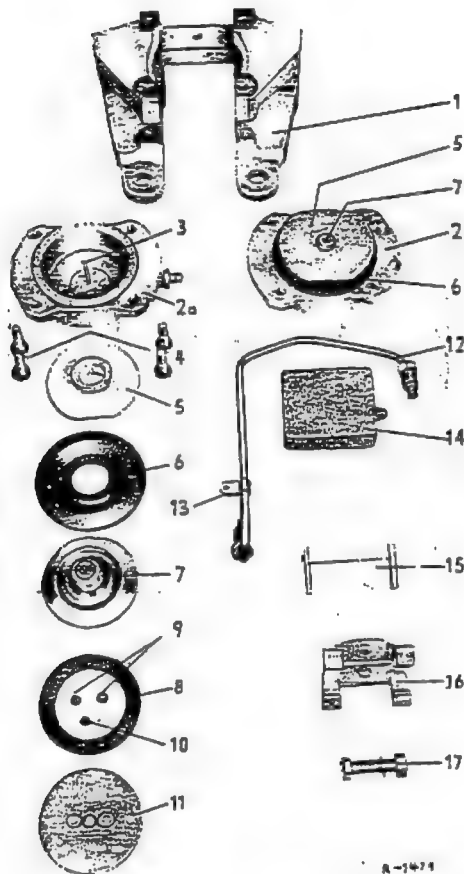

Fig. 42-13/2
2. Take the dust cap out of the groove of the pressure cylinder. Plug one connection on the pressure cylinder. Install the pressure cylinder (1) in the bushing (2), clamp the two parts in a vise and force the piston out of the pressure cylinder with compressed air (at approx. 2 atm) (Fig. 42-13/3).